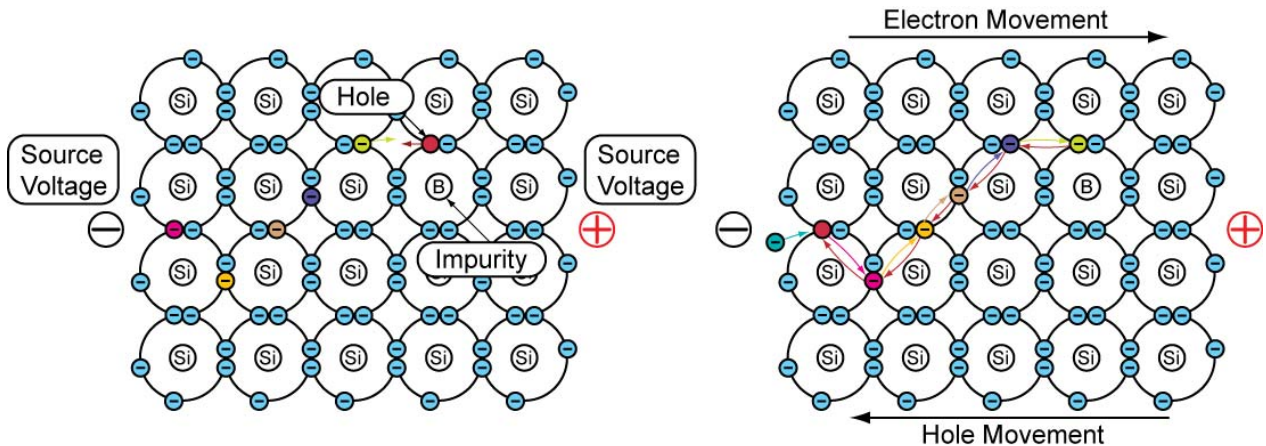

Figure 3: Hole and Electron Movement in p-type Semiconductor - Impurities Contribute Holes that Accept Electrons
- Alternatively, you can replace silicon atoms in the crystal structure with impurity atoms that have only three valence electrons, such as boron (B), aluminum (Al), or gallium (Ga). These impurity atoms (called “acceptor” atoms) create holes that can accept valence band electrons from nearby silicon atoms. The nearby silicon atom is then left with a hole that soon pulls in an electron from another close silicon atom. The holes move in the opposite direction to the electrons (Figure 3). Holes are considered positively charged carriers even though they do not carry a physical charge.